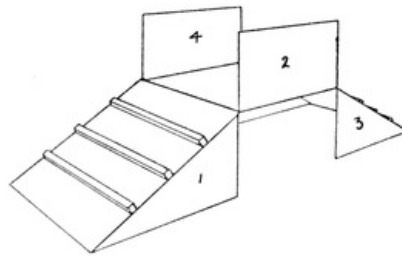
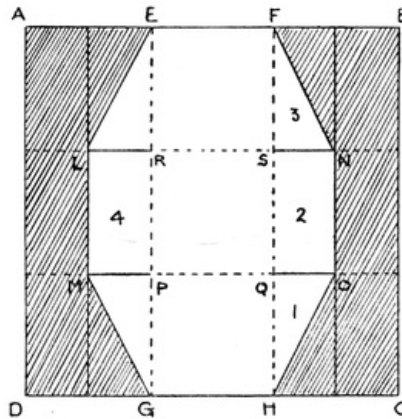

FIG. 42
FIG. 43
**A Bridge** (Fig. 42). Begin with square (8 inches each side), fold in four and cut off one piece. Fold again in four, folds running in opposite directions to first folds, and cut off one piece. A square, A B C D, remains, divided into nine squares (Fig. 43). Fold A G and F C in halves, cut off shaded portions. Join L E, F N, M G and H O, and cut off shaded portions. Cut along L R, N S, M P and O Q; bend as in Fig. 42. Matches can be gummed on the slopes of the bridge. If a piece of white cardboard or paper is placed underneath a river can be marked on it and paper boats made.